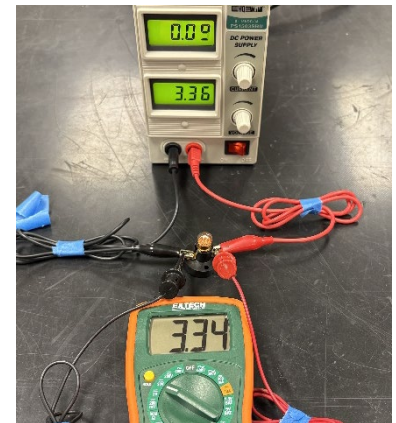
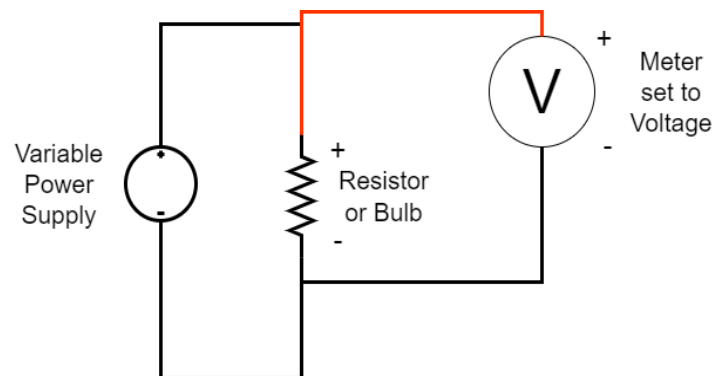

Figure 3: Power supply and voltmeter connected to the bulb for voltage measurement.
Figure 4: Circuit for Voltage measurement.
3. First, set the power supply to ~2 Volts and then use your meter to measure the voltage across the light bulb by touching your probes to the screws of the socket, as shown in Figure 3. This sets up the circuit shown in Figure 4. Notice how the meter is in parallel with the bulb. Remember, components are in parallel; they have the same voltage.